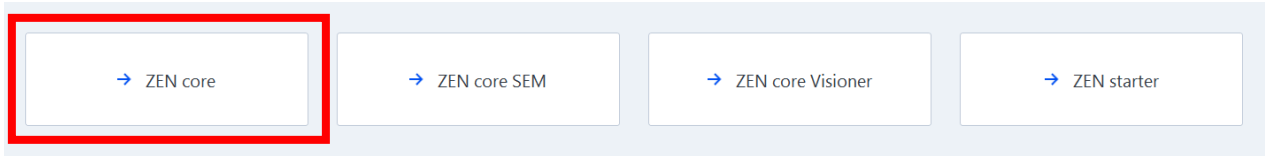

Figure 5. Zen Core Software Selection
4. Open the Zen Core software. Select "Zen Core" as shown in Figure 5.